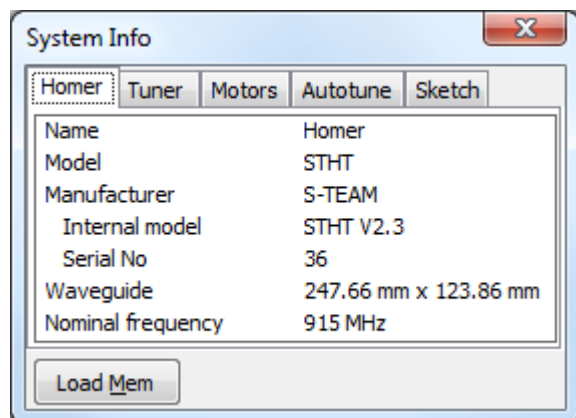

Figure 44. HoSim System Info window includes **Load Mem** button.
- Open System Info window (Figure 44). In case of HoSim simulation program, the window contains additional button, labeled **Load Mem**.